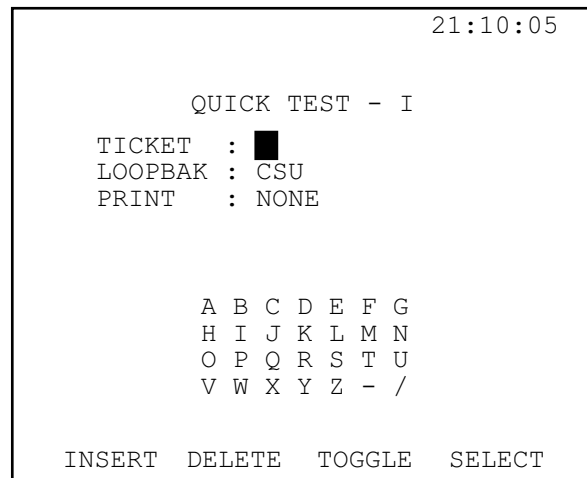

Figure 59 Ticket Label Entry
3. Select MAIN MENU > OTHER MEASUREMENTS, then select either QUICK TEST-I or QUICK TEST-II. The screen depicted in Figure 59 appears.